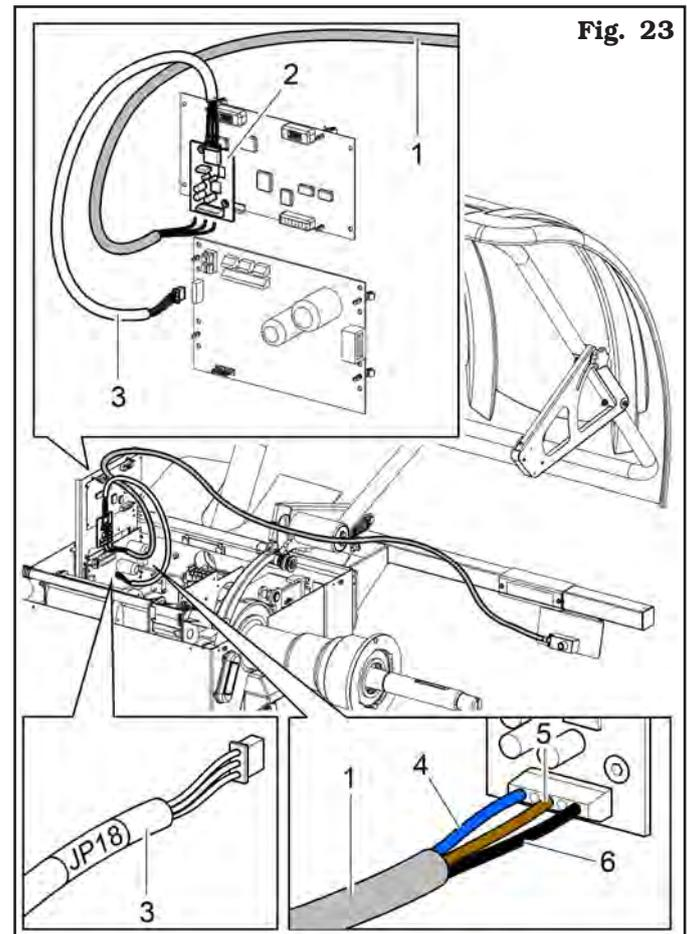

Fig. 23
4. Mount the card (**Fig. 23 ref. 2**) (# 18363), as shown in **Fig. 23**.
5. Connect connector of GAR339 cable (**Fig. 23 ref. 1**) to the electronic card (**Fig. 23 ref. 2**) (# 18363), as shown in **Fig. 23** (blue **ref. 4 cable**, brown **ref. 5 cable** and black **ref. 6 cable**). Connect GAR339 card (**Fig. 23 ref. 2**) (# 18363) to the wheel balancer main card, using the supplied cable JP18 (**Fig. 23 ref. 3**). Carry out the connection as shown in **Fig. 23**.